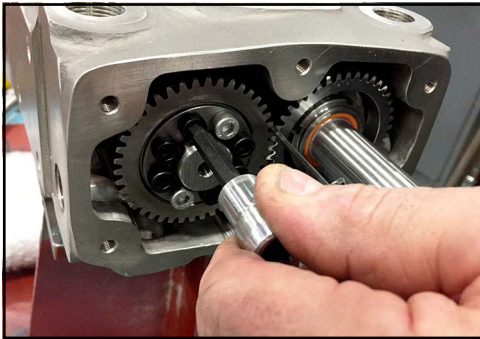

Figure 150 - Loosen bolts in locking assembly
2. With an Allen wrench, loosen the screws in the locking assembly by quarter turns, until you can see a few threads as shown in Figure 150.